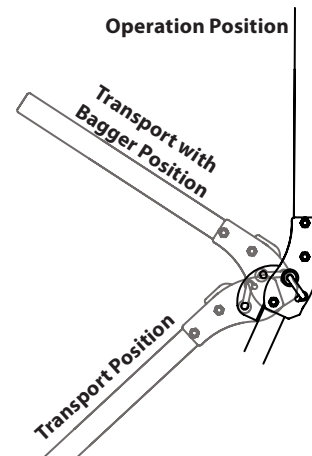

Figure 23
Refer to Figure 23 and the following descriptions and uses for the three (3) positions for the ROPS.
2. Move the ROPS into the desired position. The three positions are TRANSPORT position, TRANSPORT WITH BAGGER position and the OPERATION position. See Figure 23.